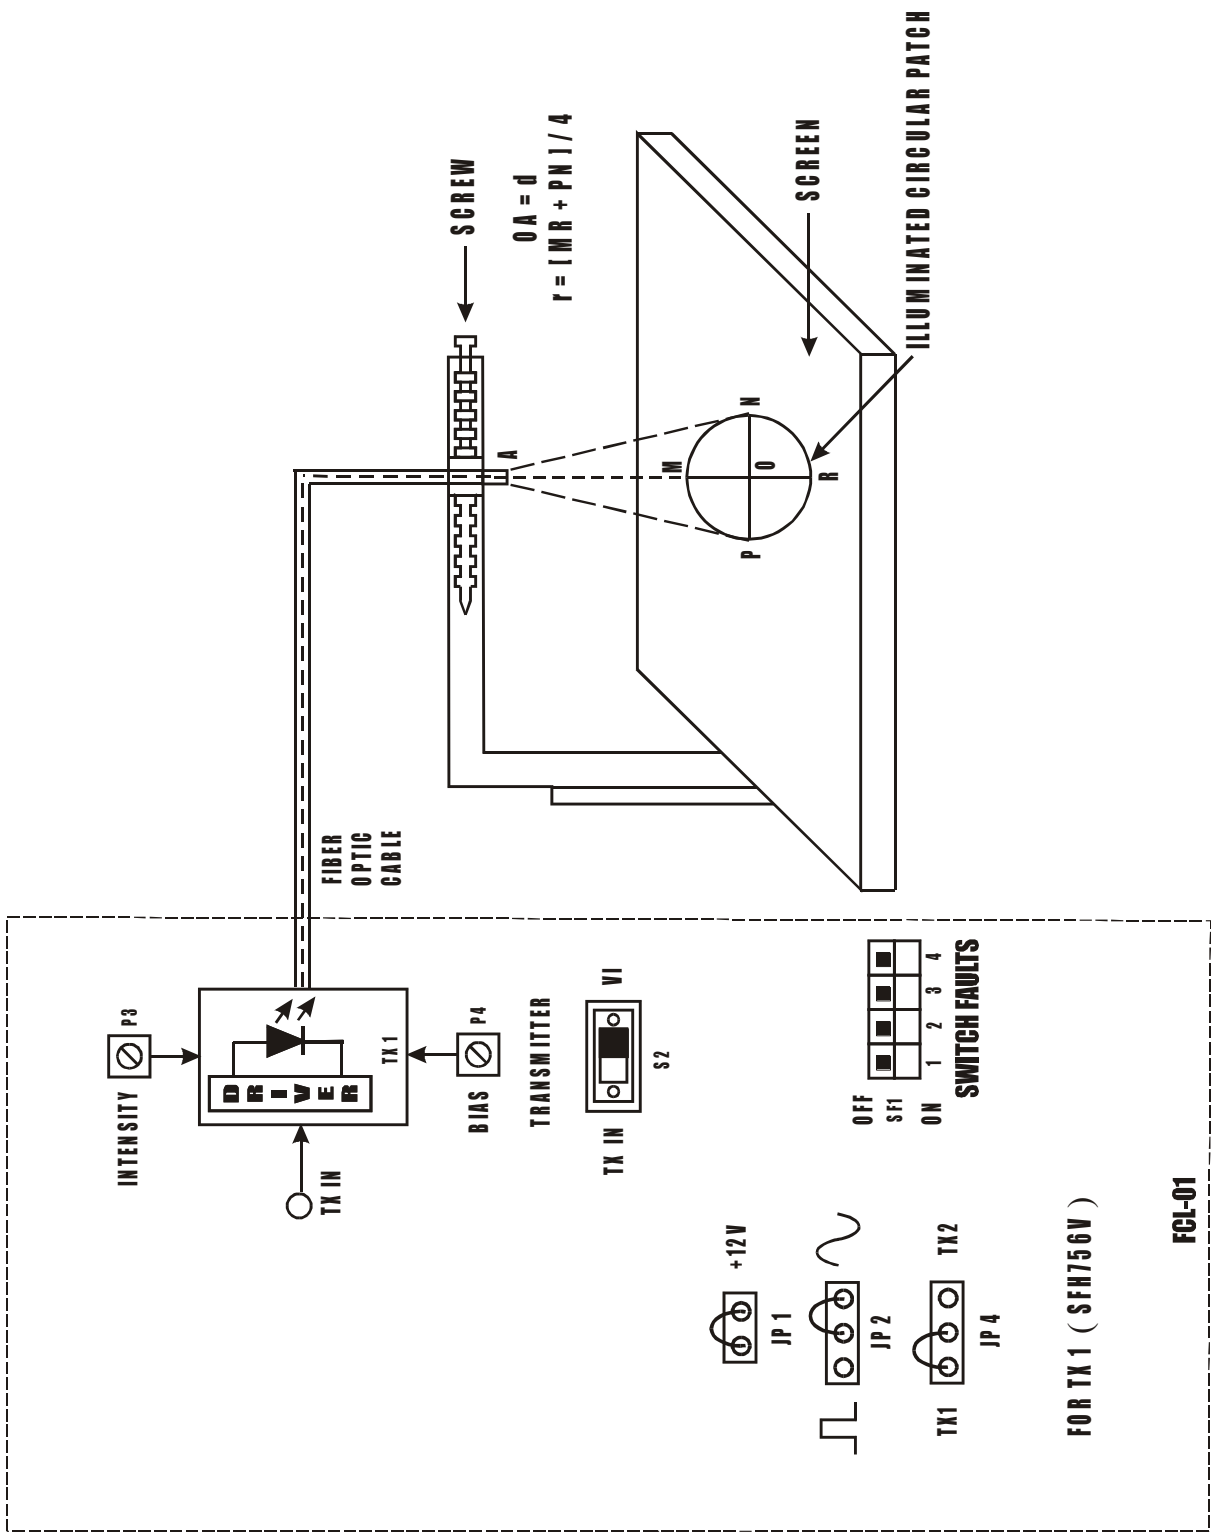

FIG. 5.1 BLOCK DIAGRAM FOR NUMERICAL APERTURE MEASUREMENT
- Make connections as shown in fig.5.1. Connect the power supply cables with proper polarity to FCL-01 Kit. While connecting this, ensure that the power supply is OFF.
- Keep the jumpers **JP1**, **JP2&JP4** on FCL-01 as shown in fig.5.1.
- Measure exactly the distance **d** and also the vertical and horizontal diameters **MR** and **PN** as indicated in the fig. 5.1.